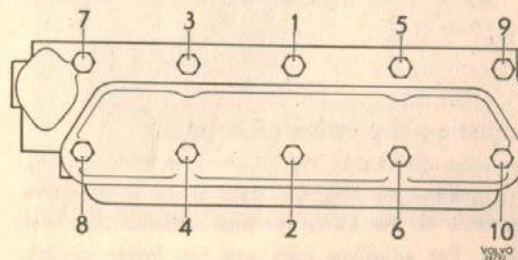

Fig. 1-40. Order of tightening for cylinder head bolts
3. Fit a new cylinder head gasket. Fit the cylinder head. Tighten the bolts in the right order and to the correct tightening torque. See Fig. 1-40 and the specifications.